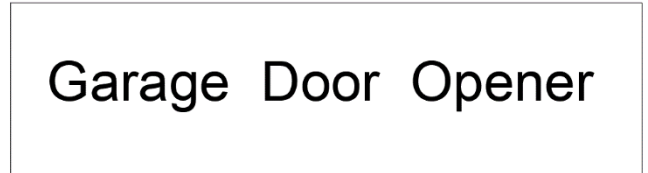

Figure 15
**NOTE:** Make sure the photo cell has been correctly installed and use Normally Closed contacts to the accessory terminals of the opener (Fig.15, Fig.16)
The O/S/C facility can be used for an external push button switch to operate the opener. The switch must have voltage free normally open NC contacts (Fig. 15)
**Photo beam connection (optional) – Fig.15, Fig.16**
**Switch control connection (optional) – Fig.15**
1. The O/S/C interfaces available. (Fig.15)